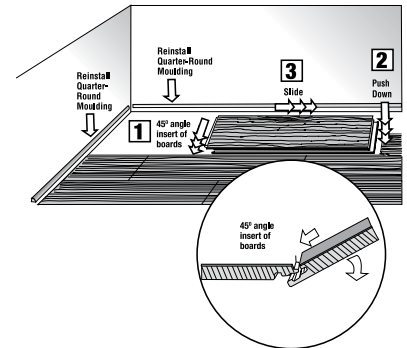

Fig. 7
3. Replace the damaged board with a new one. Reassemble the floor (Fig. 7).